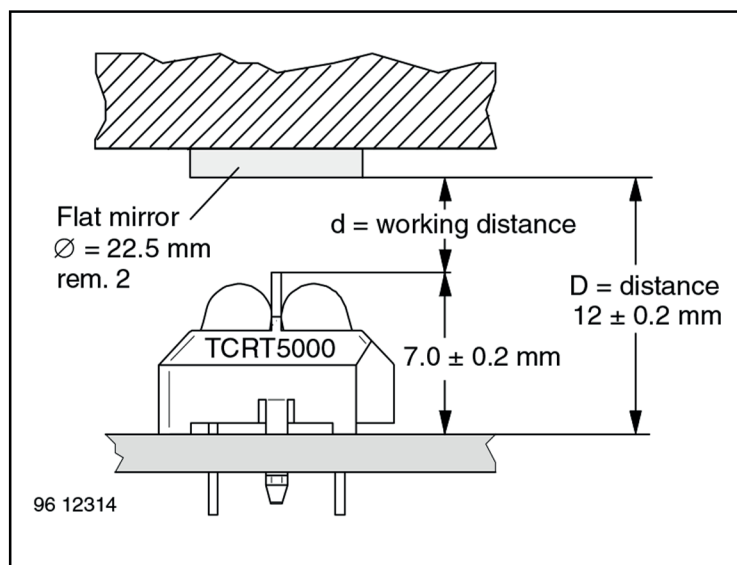

Figure 3 - Test Circuit
(2) See figure 3
(3) Test surface: mirror (Mfr. Spindler a. Hoyer, Part No. 340005)
Tube Specification Figure 3